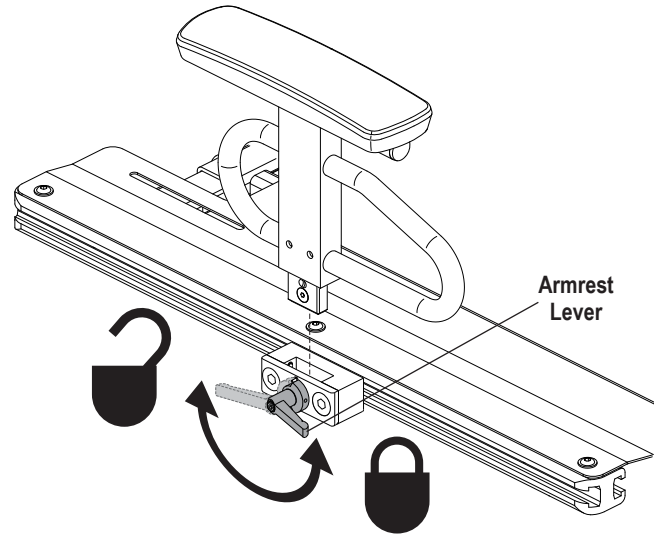
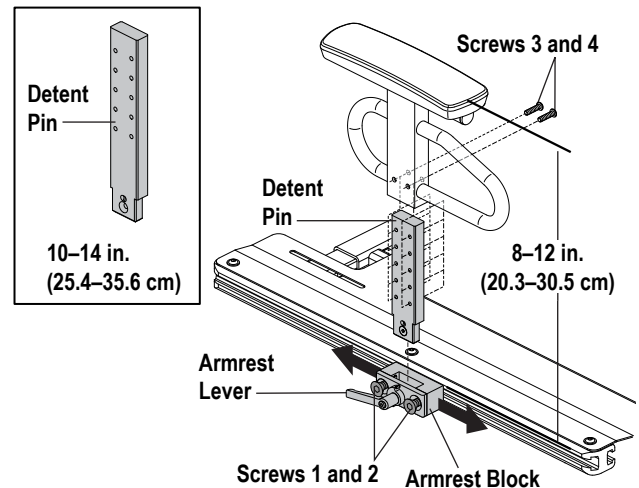

Figure 11. Heavy Duty Drop-in Armrest Removal/Installation
Figure 12. Heavy Duty Drop-in Armrest Position and Height Adjustment
The Heavy Duty Drop-in Armrests are designed to be removed for easier transfer onto and off of the power chair. **See figure 11.** The armrest height and position can be adjusted. **See figure 12.**
1. Rotate the armrest lever rearward. **See figure 11.**
1. Place the armrest assembly into the armrest block. **See figure 11.**
1. Rotate the armrest lever rearward and remove the armrest from the armrest block. **See figure 11.**
2. Loosen screws 1 and 2. **See figure 12.**
5. Install the armrest in the armrest block and rotate the armrest lever forward. **See figure 12.**
1. Remove screws 3 and 4. **See figure 12.**
3. Reinstall screws 3 and 4. **See figure 12.**